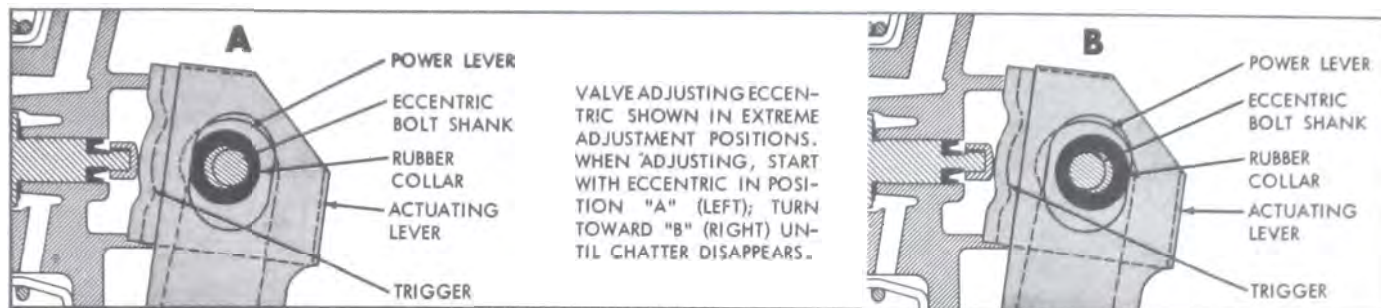

Figure 9-39—Valve Adjusting Eccentric
4. Turn the valve adjusting eccentric until the unit chatters when the pedal is depressed in a sharp and rapid applying movement. Then turn the eccentric until the chatter disappears. Do not turn the eccentric more than necessary or the unit cut-in will be excessively high. (See Figure 9-39.)